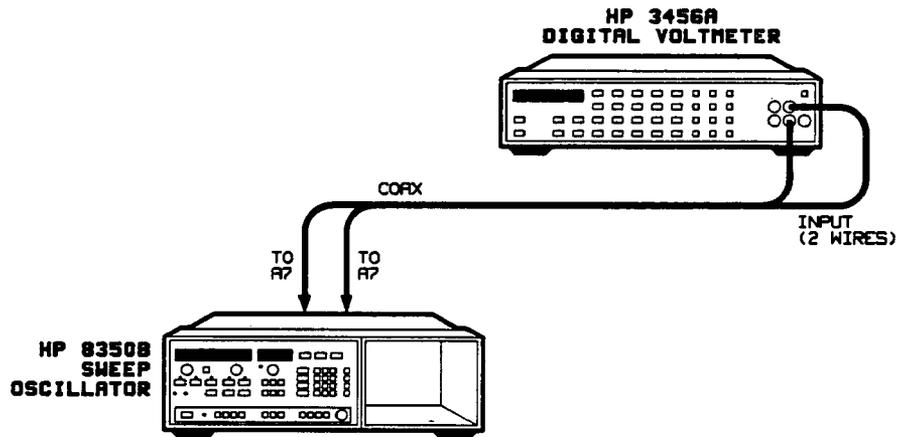

Figure 5-4. +5VA/B Power Supply Adjustment Setup
3. Position the sweep oscillator upright, as shown in Figure 5-4, and remove the top cover.